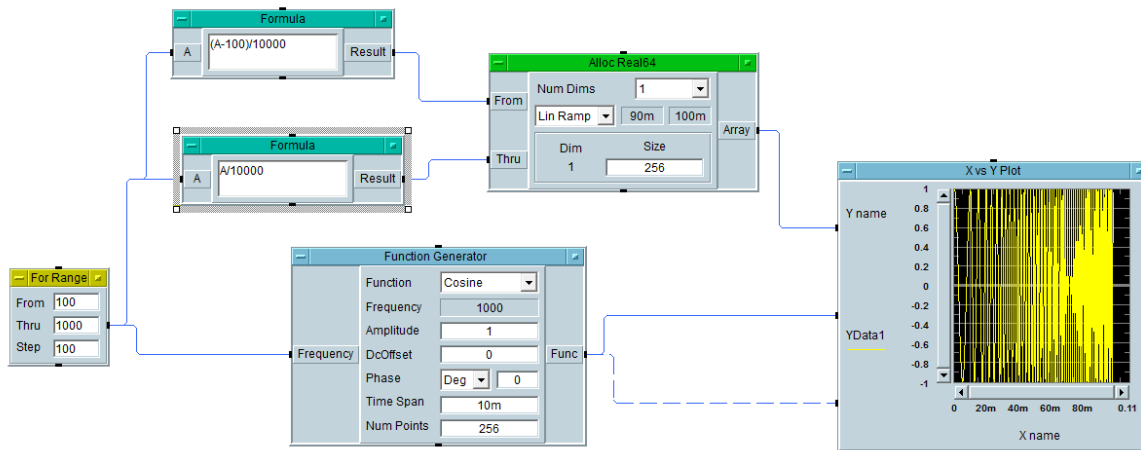

Fig. 37. Displaying successive waveforms
- Now, clear the work area and add the objects in in Fig. 37. Make all necessary connections. In this configuration, the output of For Range object, which is the frequency of the Function Generator, is swept from 100 to 1000 with step size 100. Successive waveforms with increasing frequency are generated. We should add a control input to X vs Y Plot object in order to prevent it from deleting the previous plot. For this purpose, right click on X vs Y Plot object and select **Add Terminal** → **Control Input** → **Next Curve**. Connect the Func pin of the Function Generator to the Next Curve pin of X vs Y Plot object. This will ensure that when a new waveform is sent to X vs Y Plot from Function Generator, the previous plot is not deleted from the graph. Note that, since Next Curve is a control input, the line connected to it is a dashed line.
- When you run the program, you will observe a series of cosine waveforms with increasing frequency as shown in Fig. 37.